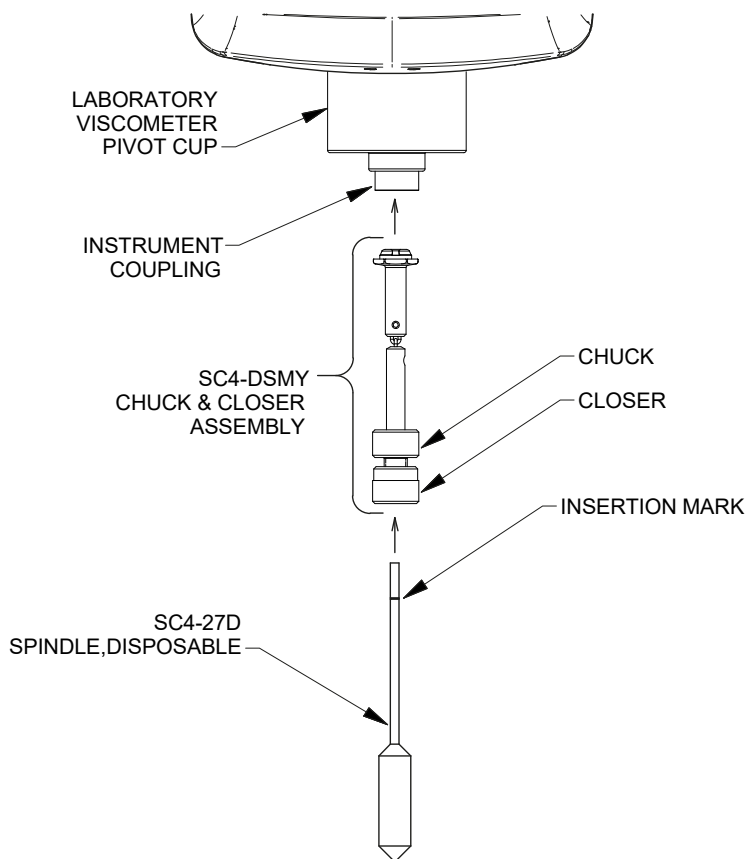

Figure C-3: Magnetic
5. For Magnetic assembly, attach the assembly (spindle and chuck) to the viscometer by carefully inserting the spindle coupling into the instrument coupling. There should be no gap between the spindle coupling and the instrument coupling, when properly installed. See Figure C-3.